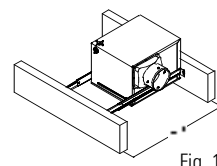
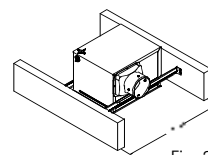

Fig. 1
Fig. 2
Select the best location to mount the housing in the ceiling. This fan will require at least 6" of clearance in the ceiling and will mount through drywall up to 3/4" thick. The fan housing can be mounted between 16" or 24" on center joists using the supplied four fan mounting rails. Figure 1 shows housing installation between 16" or 24" on center joists. Figure 2 shows housing installation directly to the joist (16" on center).
- Determine the required mounting orientation (fig 1, or 2).